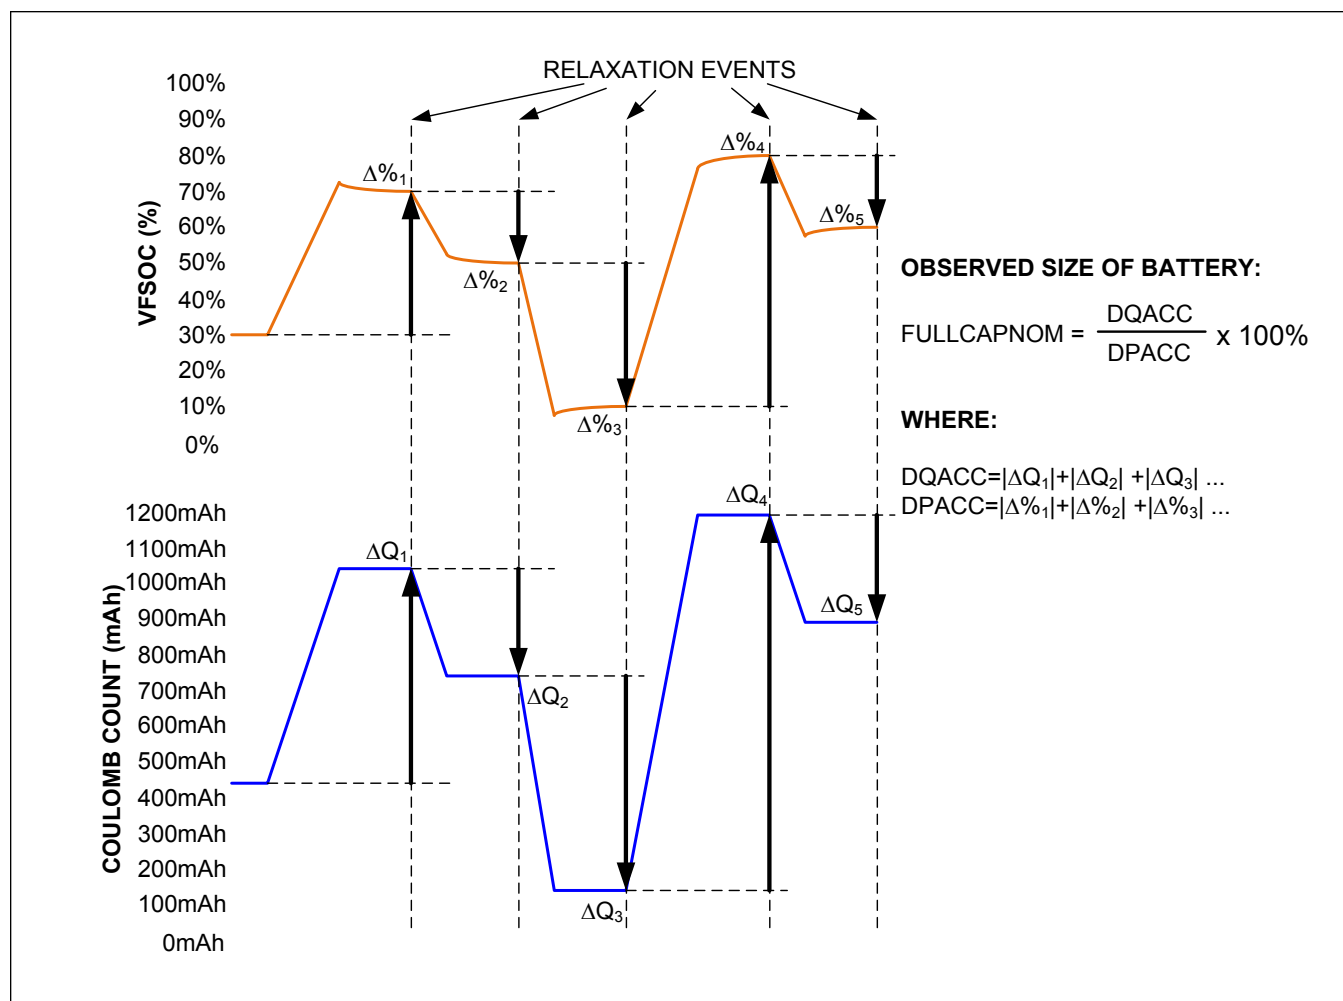

Figure 20. FullCapNom Learning
- **Cell Capacity (FullCapNom Register).** This is the total cell capacity at full, according to the voltage fuel gauge. This includes some capacity that is not available to the application at high loads and/or low temperature. The IC periodically compares percent change based on an open circuit voltage measurement vs. coulomb-count change as the cell charges and discharges, maintaining an accurate estimation of the pack capacity in mAh as the pack ages. See Figure 20.